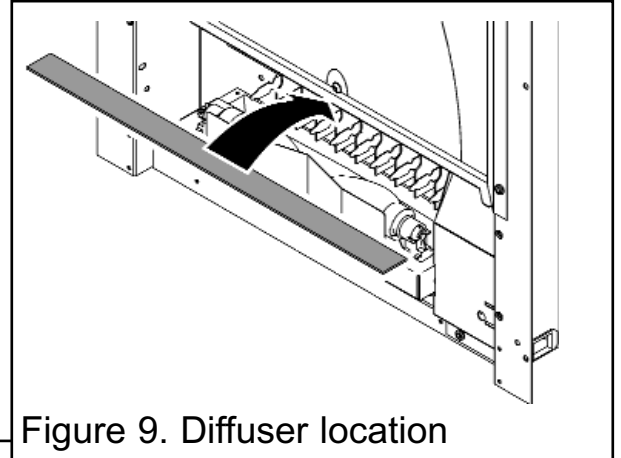

Figure 9. Diffuser location
1. Locate the diffuser on the ledge immediately below the screen (See figure 9).